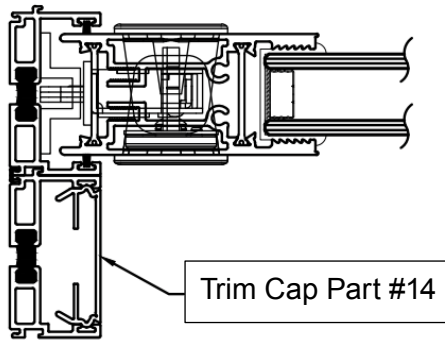
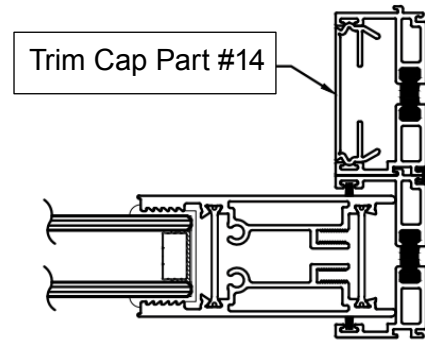

FIGURE 17A
FIGURE 17B
21. Take the longest trim cap pieces (Part #14) and install into the exterior jamb track (Part #11) of the operable side shown in figure 17a and interior jamb track of the fixed side as shown in figure 17b.